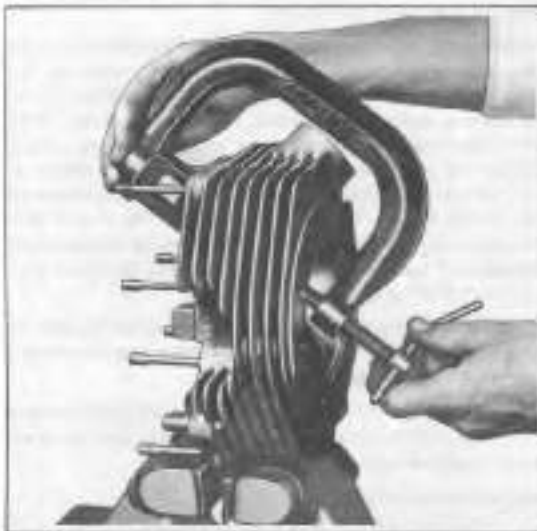

Figure 3-4. Compressing Valve Spring
Compress valve springs using Valve Spring Compressor, Part No. 56000-36, and remove valve keys (22) from ends of valve stems as shown in Figure 3-4. Mark keys to identify them with their respective valves. Remove valve spring collets (24 and 27), springs (25 and 26) and valves (28). It is customary to reassemble valves in same cylinder head from which they were removed; therefore, before removing, mark them in some manner to identify them with front and rear cylinder head.